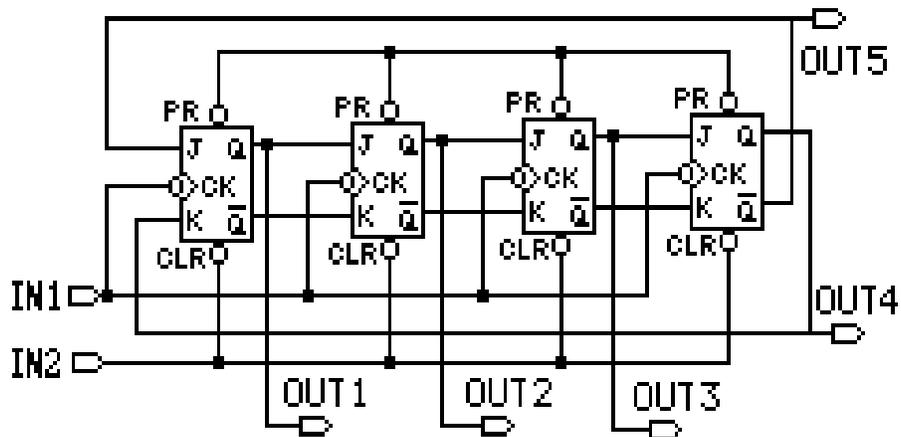

Figure 7-12
1. Johnson counter circuit, as Figure 7-12.